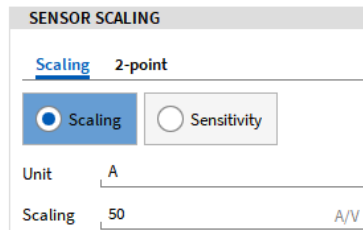

Figure 5-103: Entering the shunt resistance as scaling factor
- Change the Unit to A(mpere) and enter the resistance of the shunt resistor as Scaling factor, i.e. 50 Ω (see Figure 5-103).